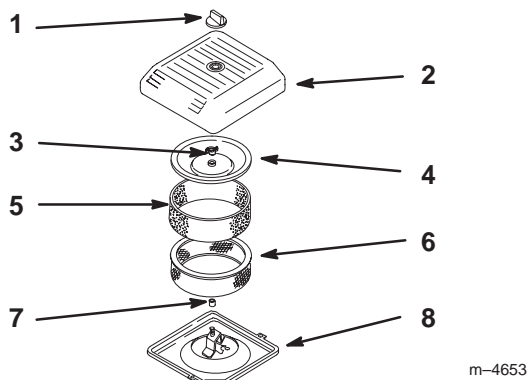

Figure 29
4. Unscrew the knob and remove the air cleaner cover (Fig. 29).
5. Carefully slide the foam pre-filter off of the paper element (Fig. 29).
6. Unscrew the cover nut and remove the cover and paper filter (Fig. 29).
1. Carefully slide the foam pre-filter onto the paper filter (Fig. 29).
2. Place the air cleaner assembly onto the air cleaner base (Fig. 29).
3. Install the cover and secure it with the wingnut (Fig. 29).
4. Install the air cleaner cover and secure with the knob (Fig. 29).